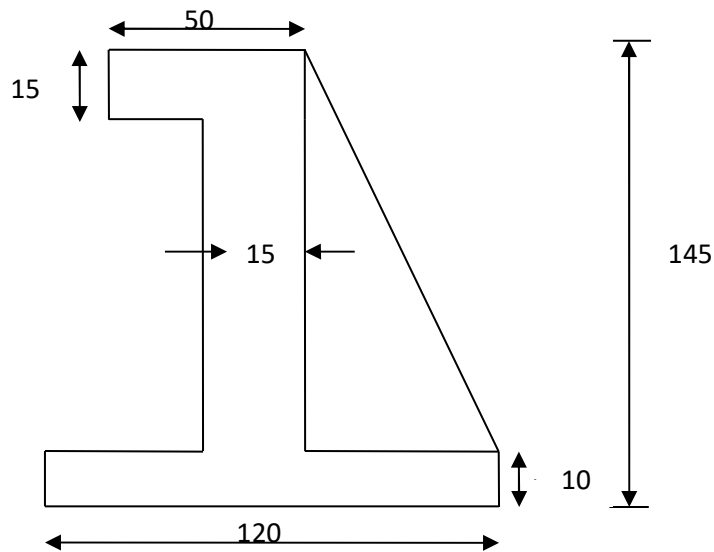

Figure Q3(c)
- c) Determine the moment of inertia of the section shown in Figure Q3(c) about an horizontal axis passing through its centroid. (7 marks)